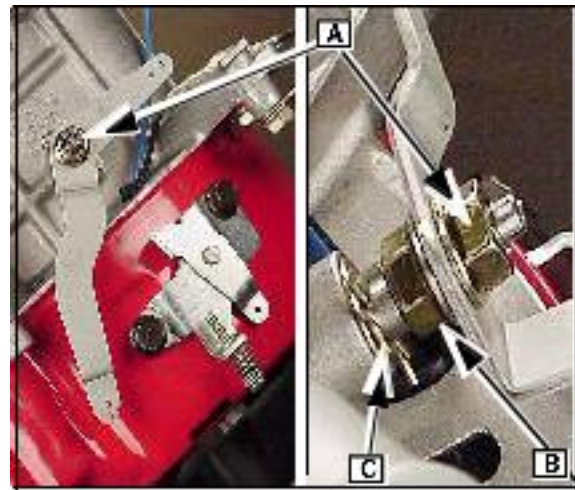

Fig. 9
NOTE: Leave the cotter pin ([C] Fig. 9) in the governor shaft to prevent it from falling into the cylinder.
To remove the governor lever for the models listed above, refer to Fig. 9 and follow the steps outlined below:
Hold the governor lever and remove the upper nut ([A] Fig. 9) securing the governor lever.
2. Remove the lower nut ([B] Fig. 9) and set aside.